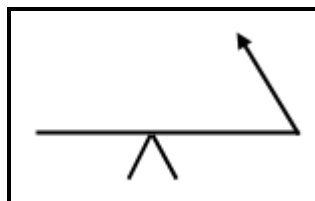

FIGURE 5.8.1
5.8 Identify the positions of the welds, as indicated by the welding symbols in FIGURES 5.8.1 and 5.8.2 below.